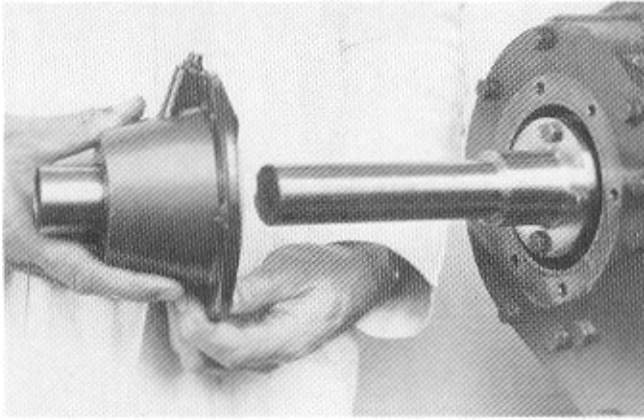

Figure 5.27 Fitting the Oil Seal using a Sleeve
5.55 When fitting the housing assembly over the extension shaft it is advisable to use an oil seal protection sleeve as shown in Figure 5.27. This prevents damage to the oil seal lip. A special tool for this purpose can be obtained from Petters Limited or their representatives. Make sure that the